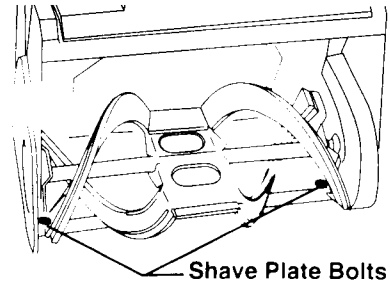

FIGURE 11
2. Remove the three screws and nuts securing the shave plate to the auger housing. Save the hardware. See figure 11.